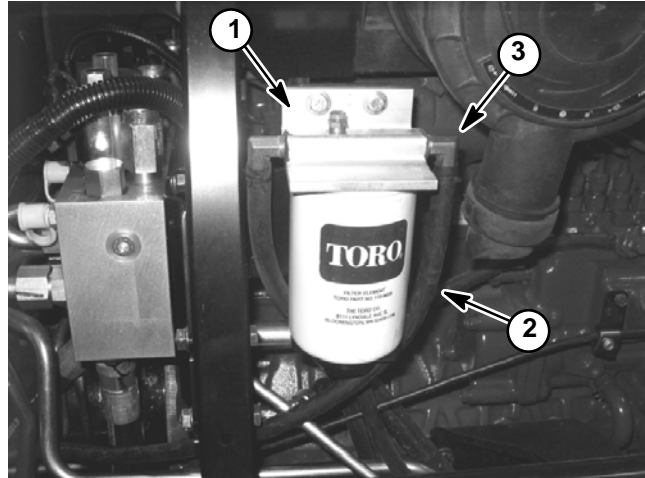

Figure 42
5. Disconnect fuel pump discharge hose from the fuel/water separator inlet fitting (Fig. 42).